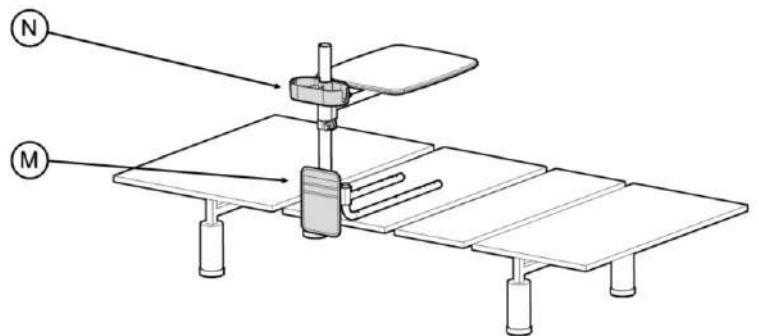

FIGURE 10B
17. Accessories: If included, place **M** and **N** on product as shown in *FIGURE 10B*.